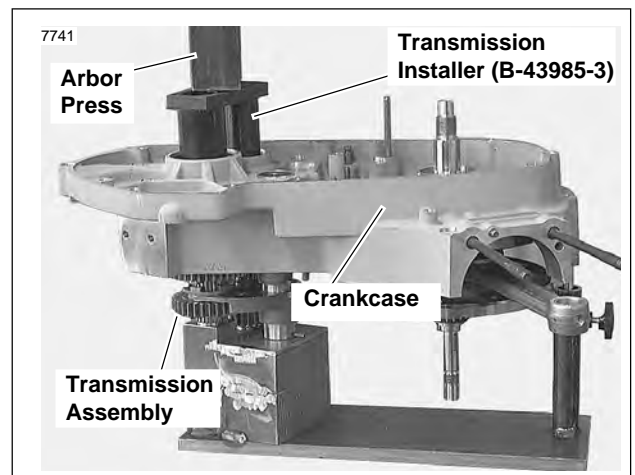

Figure 6-57. Transmission Remover/Installer on Fixture
- b. See Figure 6-57. Install TRANSMISSION INSTALLER (Part no. B-43985-3) into crankcase.
3. See Figure 6-57. Press crankcase into transmission assembly until it bottoms out.